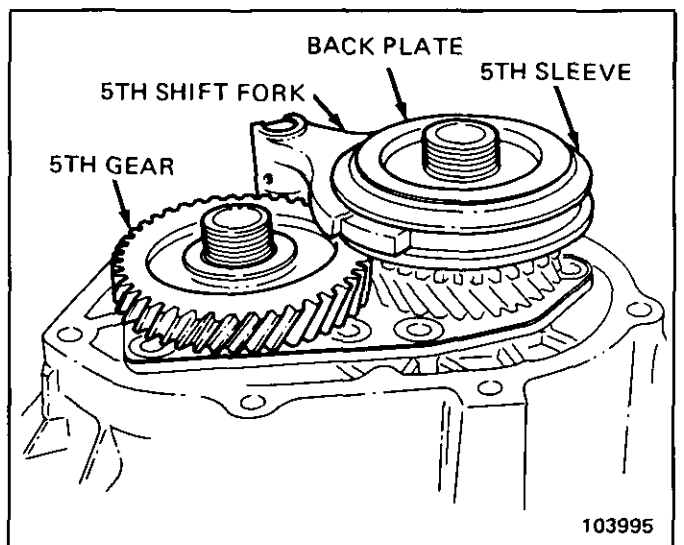

Figure 50 Fifth Gear and Shift Fork
21. Install the 5th gear to the input shaft. Install the needle bearing, 5th gear, blocker ring, hub/sleeve assembly with shift fork in its groove and back plate on the output shaft. Align shift fork on shifter shaft and install a new roll pin (Figure 50).